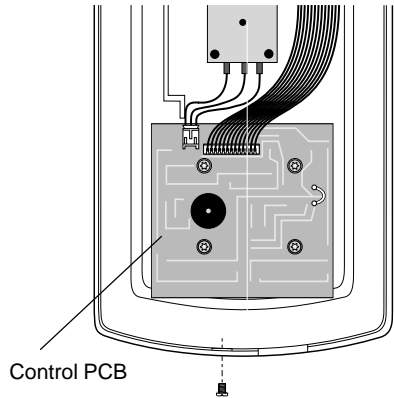

Figure 5
2.2.1. Connect the wire 78 multi-connector to the socket on the control PCB. The wire 78 multi-connector lead plug is a one way fit into the socket and must be pushed fully home (Refer to Figure 5).